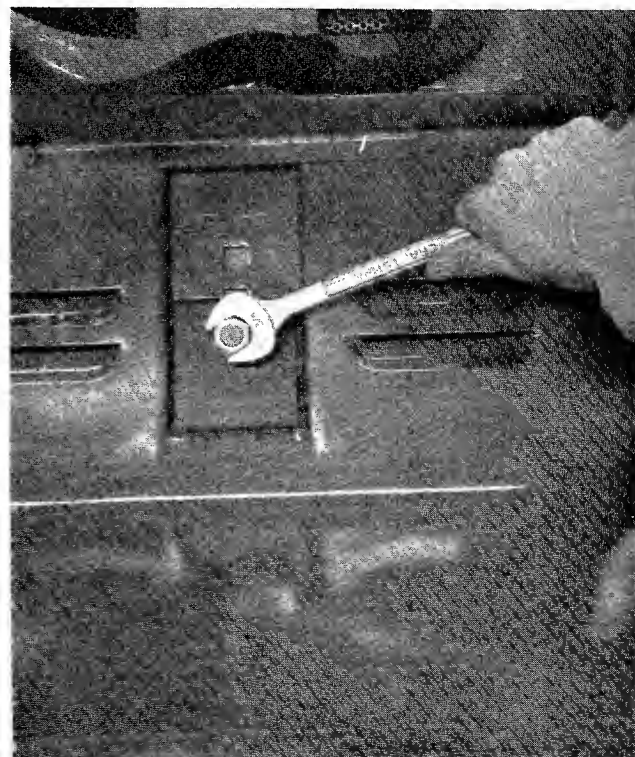

Figure 9
3. Place the square plate, lockwasher and nut over the bolt and tighten. (See figure 9.)